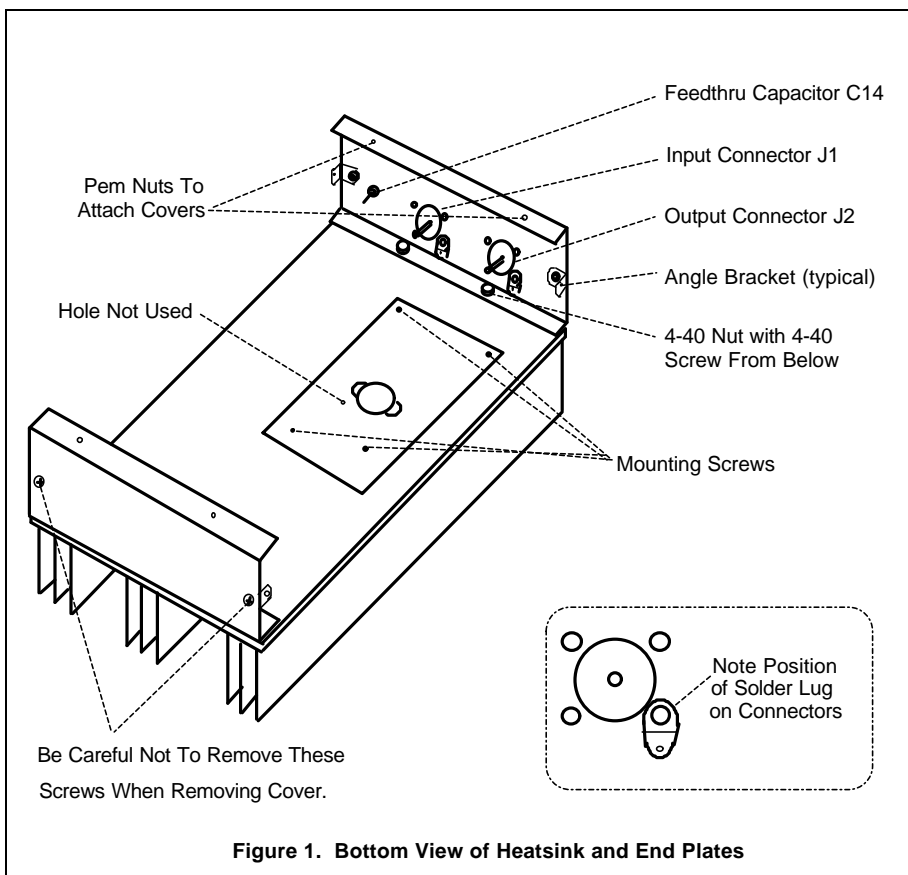

Figure 1. Bottom View of Heatsink and End Plates
h. Attach two SO-239 or 'N' connectors to the outside of the end plate, using three 4-40 x 1/4 inch screws with nuts and one 4-40 x 3/8 inch screw with a ground lug and nut for each connector. The ground lugs should be positioned as shown in the inset in figure 1 so that they are as close as practical to the center lug of the connectors.